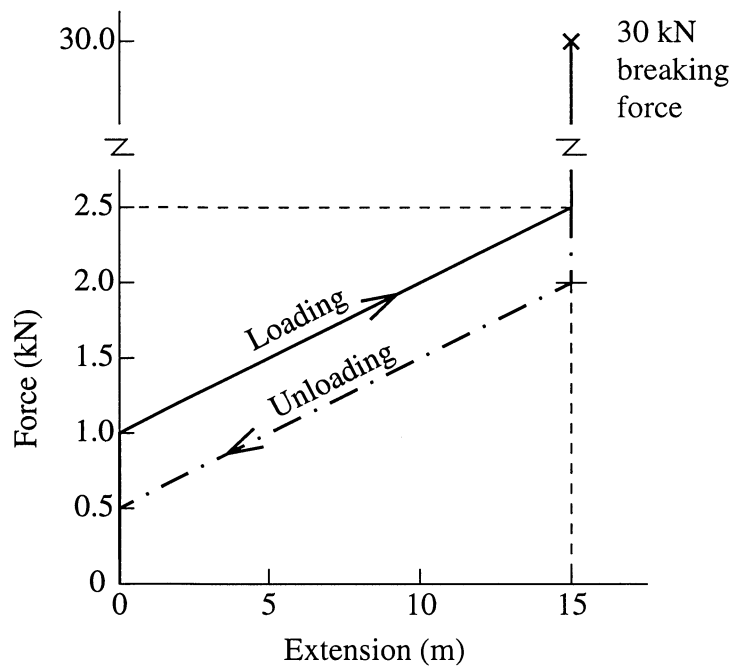

Fig. 5
7 Figure 5 shows the force-extension characteristics of a bungee rope. The length of the rope under zero load is 15 m. One end of the rope is attached to a bridge deck, and the other end is attached to a person standing on the deck. The person then jumps off the deck, and descends vertically until arrested by the rope.
- (c) Figure 5 shows that the unloading line is 0.5 kN below the loading line. Comment on the practical significance of this to bungee jumping. [10%]